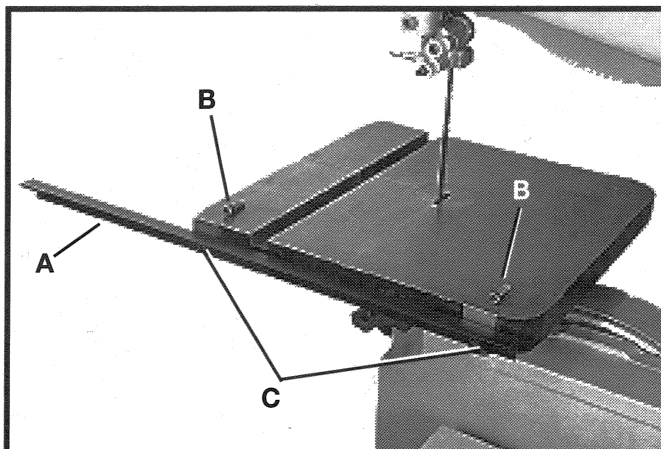

Fig. 2
1. Use the 1/4-28 x 1" hex socket head screws (B) to attach the rear guide rail (A) Fig. 2 to band saw table at (C) Fig. 2. Leave the screws loose for future adjustments.